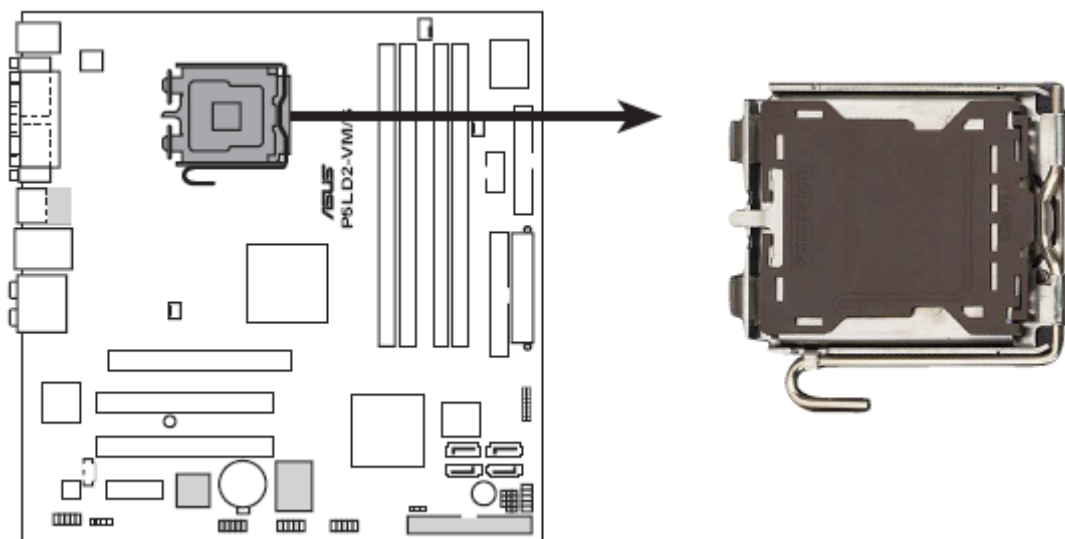

Figure 15: Socket LGA 775
3. Locate the CPU module by referring to Figure 15 if necessary